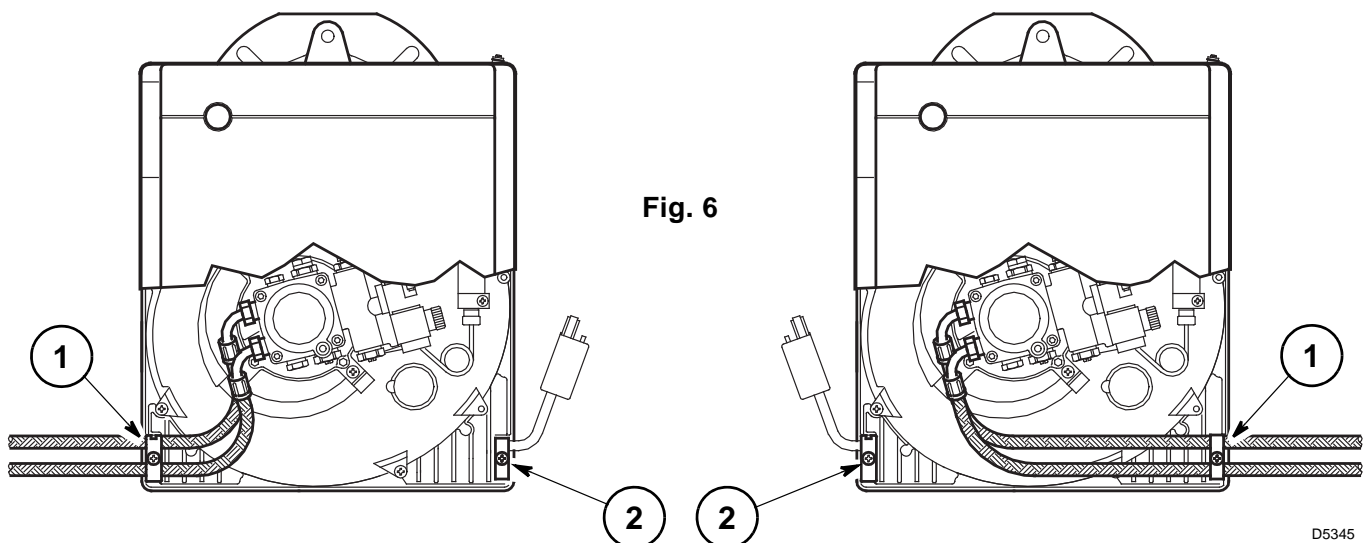

Fig. 6
The burner is designed to allow entry of the oil supply pipes on either side. Depending on the oil supply pipes position (to the right or to the left hand side of the burner) the fixing plate (1) and cable clamp (2) should be reversed, (see fig. 6).